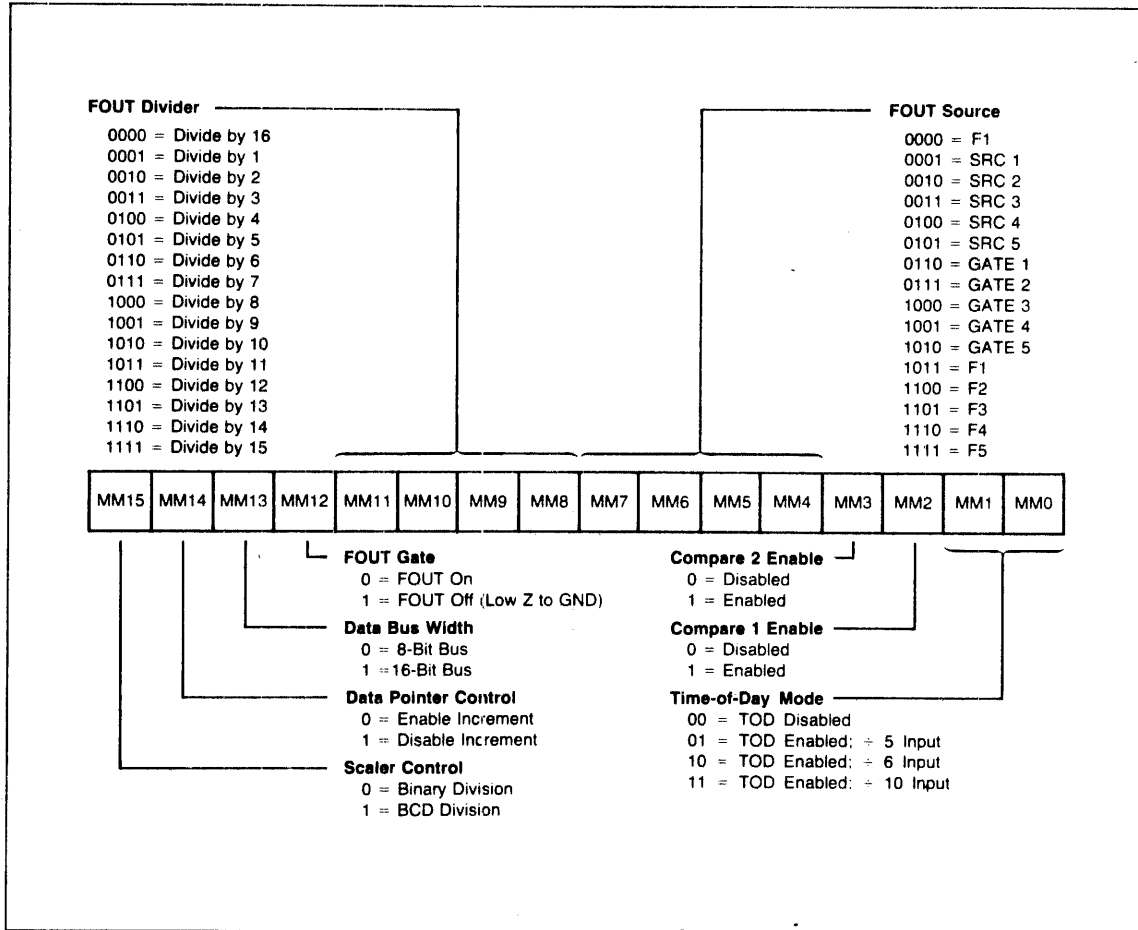

Figure 3-13. Master Mode Register Bits
The 16-bit Master Mode (MM) register is used to control those internal activities that are not controlled by the individual Counter Mode registers. This includes frequency control, time-of-day operation, comparator controls, data bus width and data pointer sequencing. Figure 3-13 shows the bit assignments for the Master Mode register. Each control field is described in the following paragraphs.